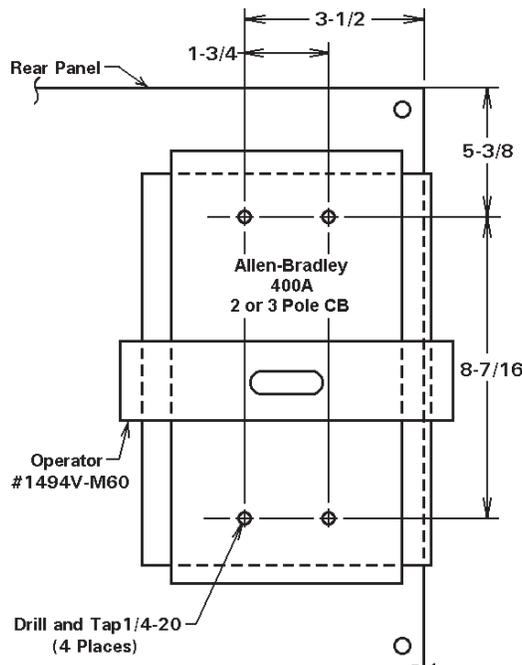

Figure 18
2. Drill and tap the Rear Panel as shown in Figure 18 (“L” Cabinet Rear Panel is already drilled).